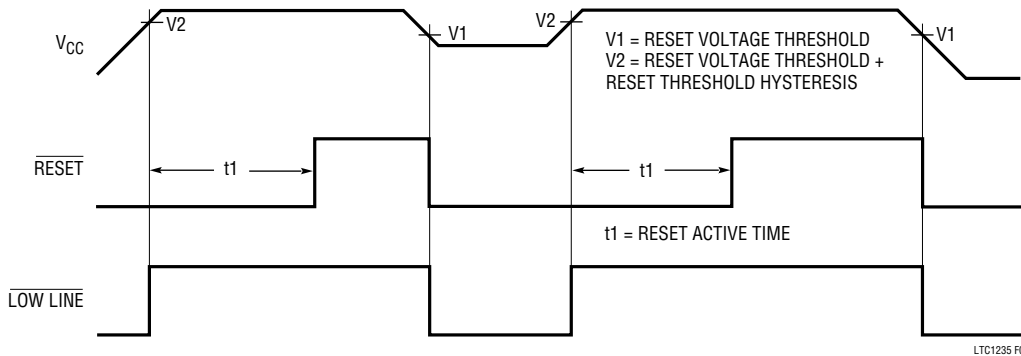

Figure 1. Reset Active Time
**LOW LINE**: Logic output from comparator C1.  $\overline{\text{LOW LINE}}$  indicates a low line condition at the VCC input. When VCC falls below the reset voltage threshold (4.65V typically),  $\overline{\text{LOW LINE}}$  goes low. As soon as VCC rises above the reset voltage threshold,  $\overline{\text{LOW LINE}}$  returns high (see Figure 1).  $\overline{\text{LOW LINE}}$  goes low when VCC drops below VBATT (see Table 1).
The LTC1235 uses a bandgap voltage reference and a precision voltage comparator C1 to monitor the 5V supply input on  $V_{CC}$  (see BLOCK DIAGRAM). When  $V_{CC}$  falls below the reset voltage threshold, the reset outputs are forced to active states. The reset voltage threshold accounts for a 5% variation on  $V_{CC}$ , so the reset outputs become active when  $V_{CC}$  falls below 4.75V (4.65V typical). On power-up, the reset signals are held active states for a minimum of 140ms after the reset voltage threshold is reached to allow the power supply and microprocessor to stabilize. On power-down, the  $\overline{\text{RESET}}$  signal remains active low even with  $V_{CC}$  as low as 1V. This capability helps hold the microprocessor in stable shutdown condition. Figure 1 shows the timing diagram of the  $\overline{\text{RESET}}$  signal.